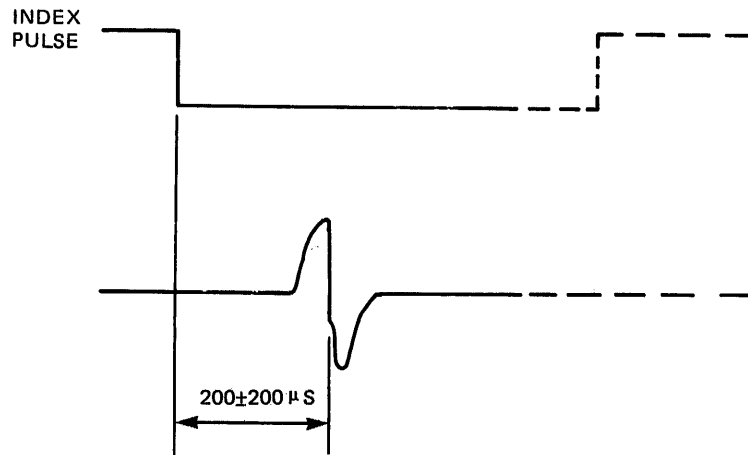

Figure 5-5 Index Alignment Waveform
- d. Observe the timing between the trailing edge of the index pulse and the first peak of the read waveforms (see Figure 5-5). It should be $200 \mu\text{s} \pm 200 \mu\text{s}$.